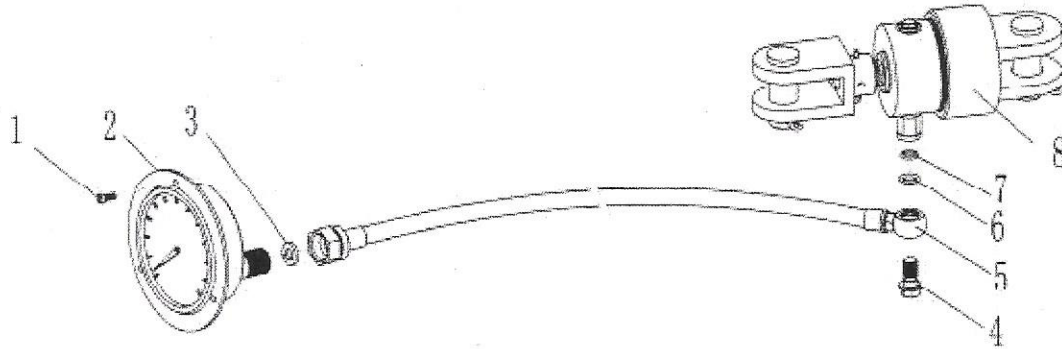

Fig .29
26.Torque testing system of master tong (Fig29, Table26)